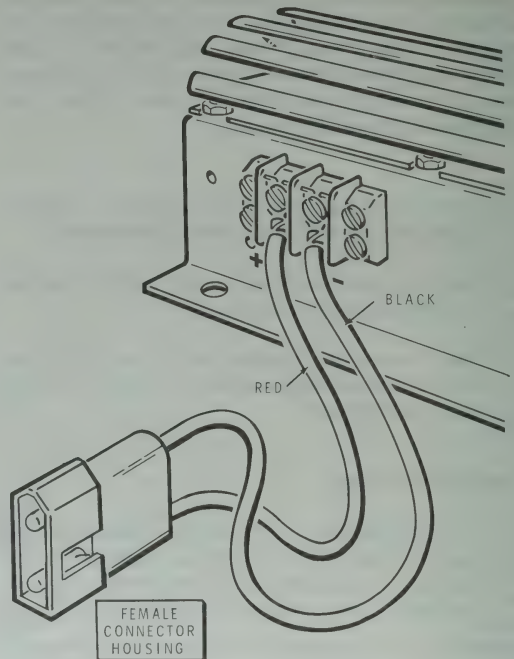

Figure 2-8
- () Refer to Figure 2-8 and connect the spade lug on the red wire to the plus (+) screw of the 13.6 VDC terminal strip. Connect the spade lug on the black wire to the other (-) screw. Be sure to tighten both screws securely.